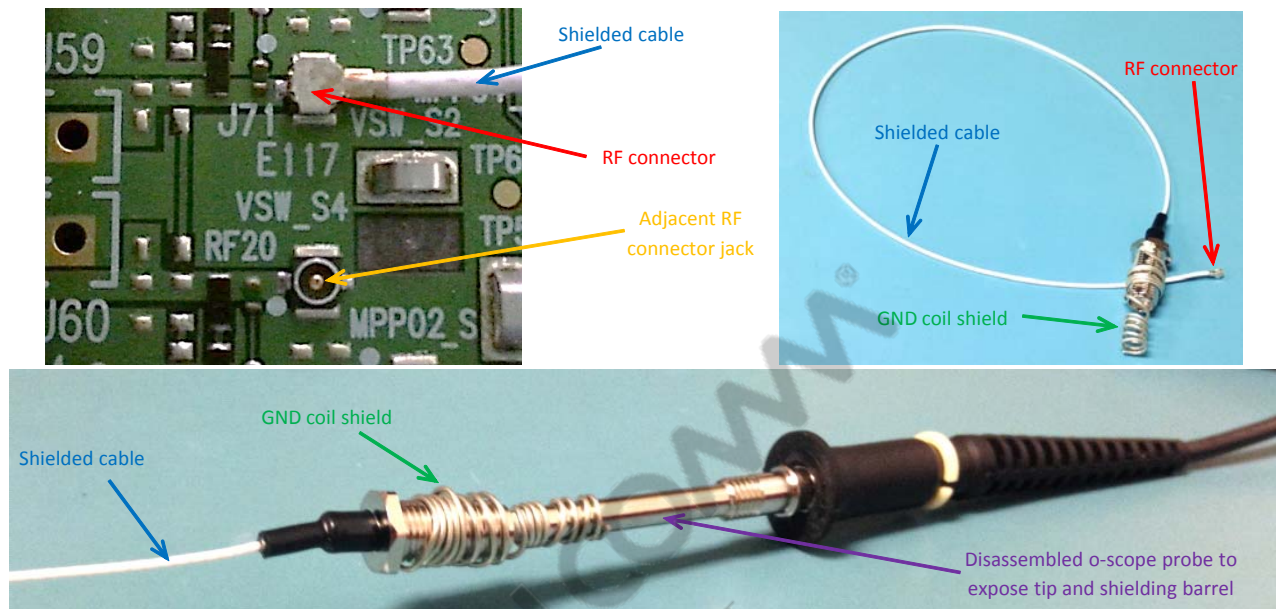
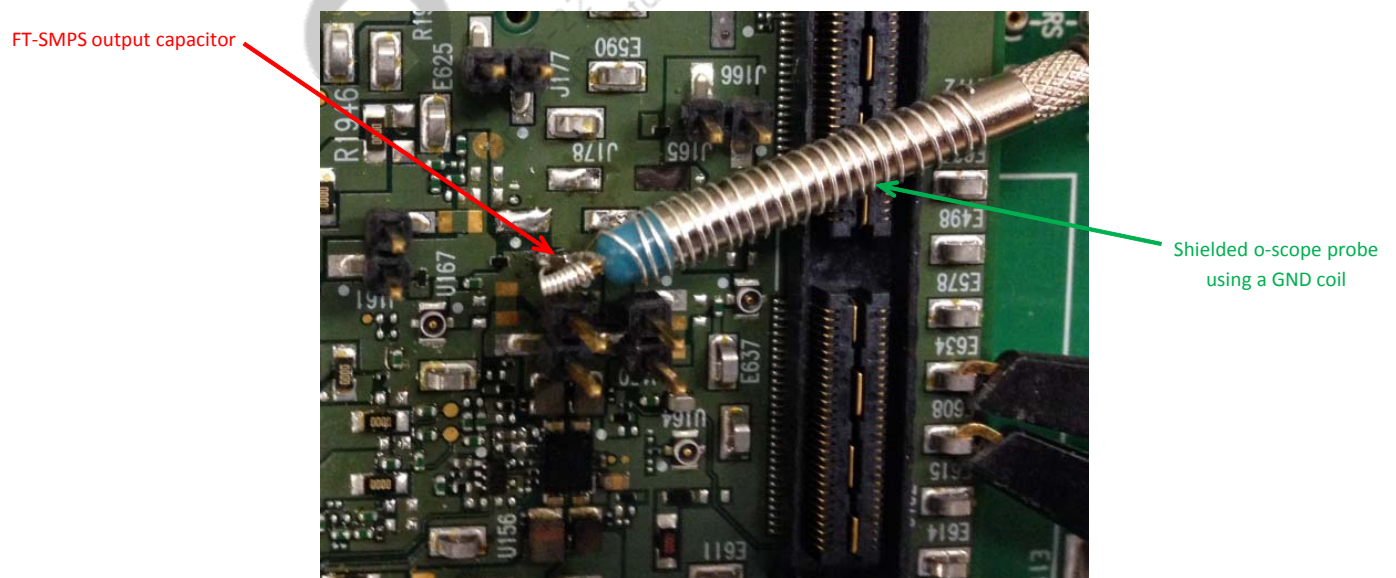

Figure 11 RF connector, shielded cable, ground coil shield, and oscilloscope probe for output voltage measurements
Figure 12 Output voltage measurement across FT-SMPS output capacitor using a ground coil and oscilloscope probe
- Use an RF connector, shielded cable, and a ground coil shield around the oscilloscope probe barrel to eliminate noise coupling (Figure 11). In case an RF connector jack is not mounted on the PCB, use a ground shielded oscilloscope for the output voltage measurement (Figure 12).